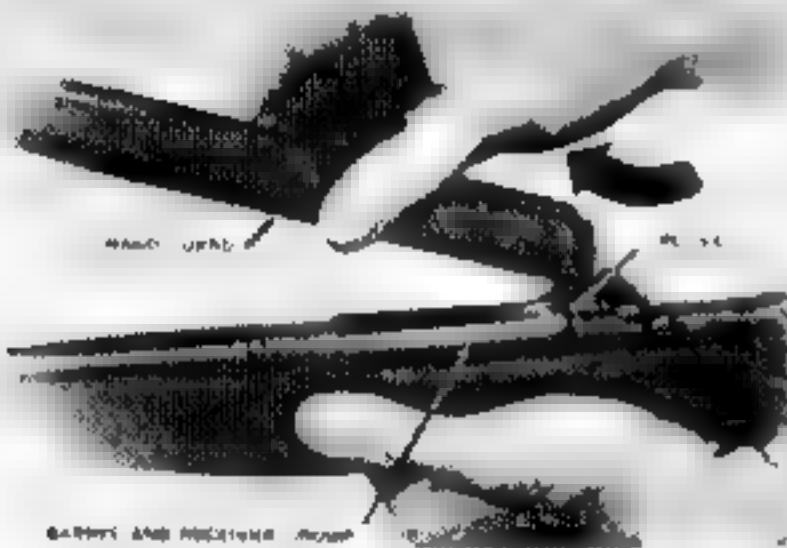

Figure 5. Removing the hand guard.
d. Move the hand guard forward until its rear end is disengaged from the groove in the front end of the receiver. Remove the hand guard (Fig. 5).